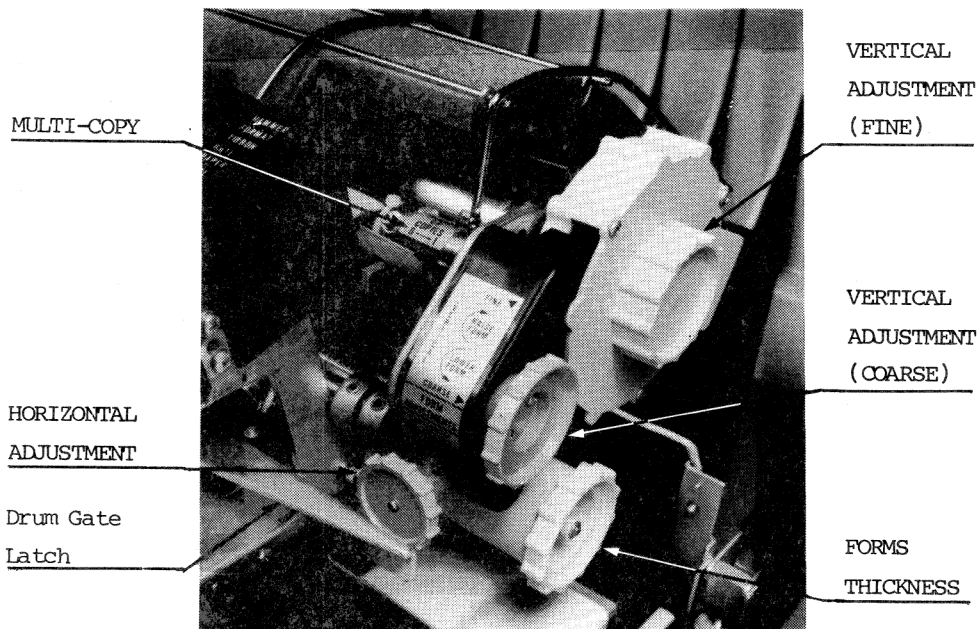

Figure 4: Printing adjustment knobs.
The position of the print form can be adjusted to obtain printing at precisely predetermined positions. The print form can be moved vertically and horizontally by means of the following adjustment knobs (located to the right of the control panel as shown in fig. 4):
- located below the VERTICAL ADJUSTMENT (COARSE) handwheel (see fig. 4). Used to adjust the spacing between the character drum and the hammer bank between which the paper moves. This adjustment is used to compensate for the thickness of multipart forms. Position is indicated by MULTI-COPY indicator.
3. Lift the printer cover and open the drum gate (for position of drum gate latch, see fig. 4).
8. Also check that the FORMS THICKNESS control as indicated by the MULTI-COPY scale (see fig. 4) is set correctly for the form being used.